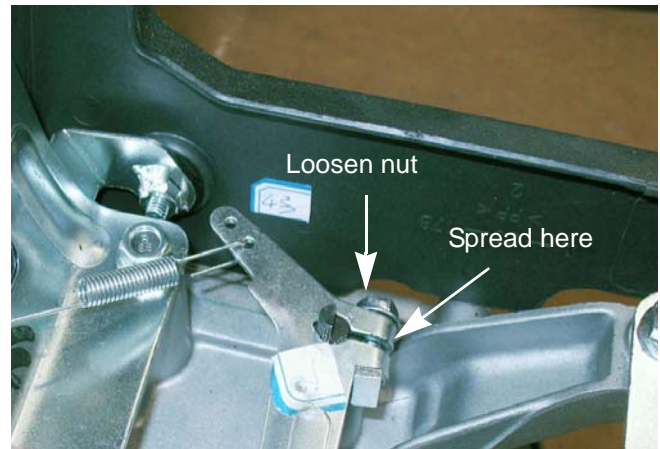

Figure 4.23
3. Loosen the nut and clamp bolt. See Figure 4.23.
2. Slide the arm onto the shaft. The flat on the top of the shaft should be roughly parallel to the arm. See Figure 4.23.